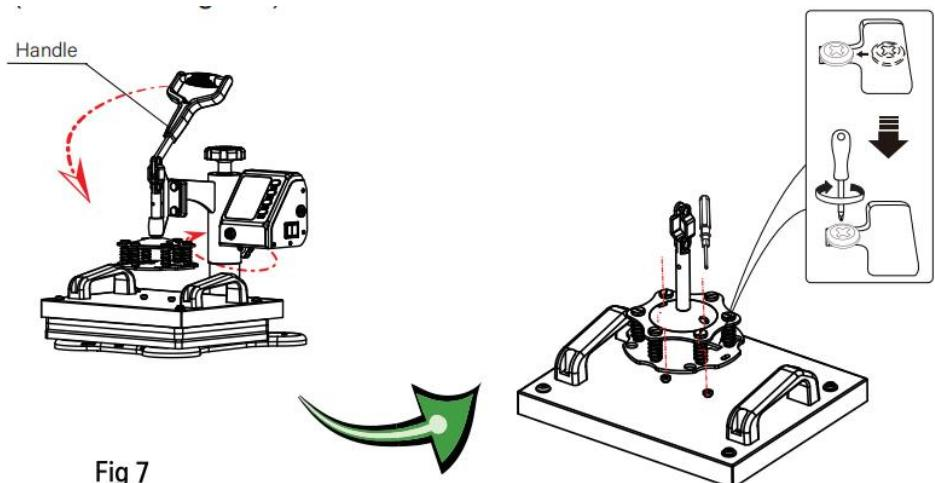

Fig 7
6. Rotate the head back to the original position and gently press down the handle so that the cup cap of the cup head screw above the pressure platen snaps into the slot and then lock it in place with a screwdriver (as shown in fig7)